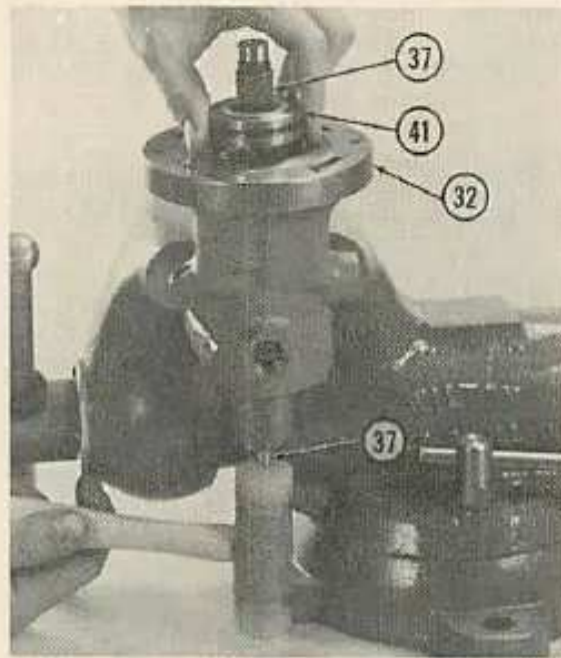

Fig. O41 — Tap on end of stub shaft (37) with soft faced mallet to bump bearing support (41) out of housing.
then lift off pressure plate as in Fig. O38. Remove dowel pins as in Fig. O39, then remove snap ring (46) from stub shaft (37) with suitable snap ring pliers and screwdriver; discard snap ring. Pull pump ring and rotor assembly (45) up off of stub shaft as shown in Fig. O40. Tap end of stub shaft with soft faced mallet as shown in Fig. O41 until bearing support (41) can be removed, then carefully remove actuator assembly from housing as shown in Fig. O43. Note: It is recommended that the actuator assembly not be disassembled as it is a factory balanced unit and serviced as an assembly only.